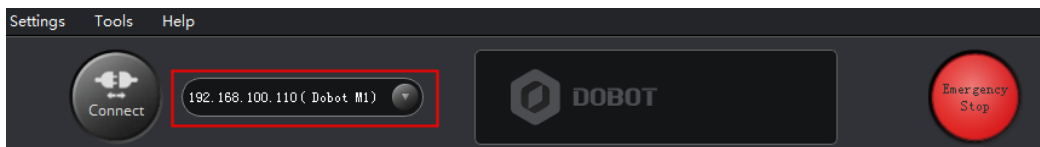

Figure 5.17 IP address information
- You can check the corresponding IP address from the serial drop-down list on the upper left pane of the M1Studio page and click **Connect**, as shown in Figure 5.17.